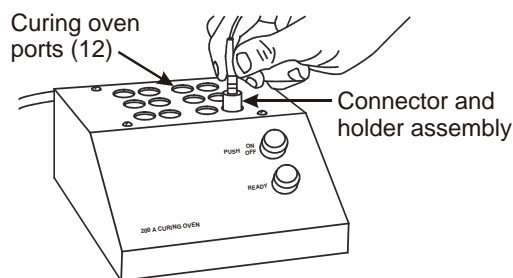

Figure 23. Place Connector into Oven
2. **Place Connector into Oven**—Place the connector and holder assembly into one of the oven ports (Figure 23). Cure for 10 minutes. Connectors on 1.6 mm cordage will be inserted into the heat tube assembly fixtures.